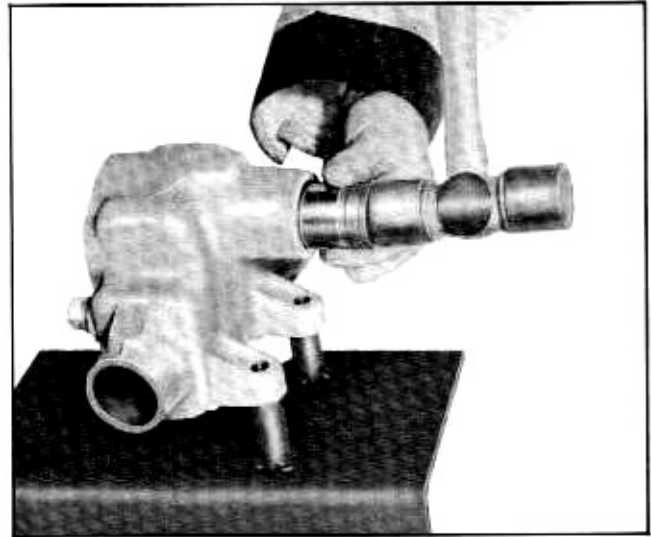

Fig. 9-22 Installing Pitman Shaft Seal
4. Install pitman shaft seal. A suitable socket which presses on outer diameter of seal may be used. (Fig. 9-22).